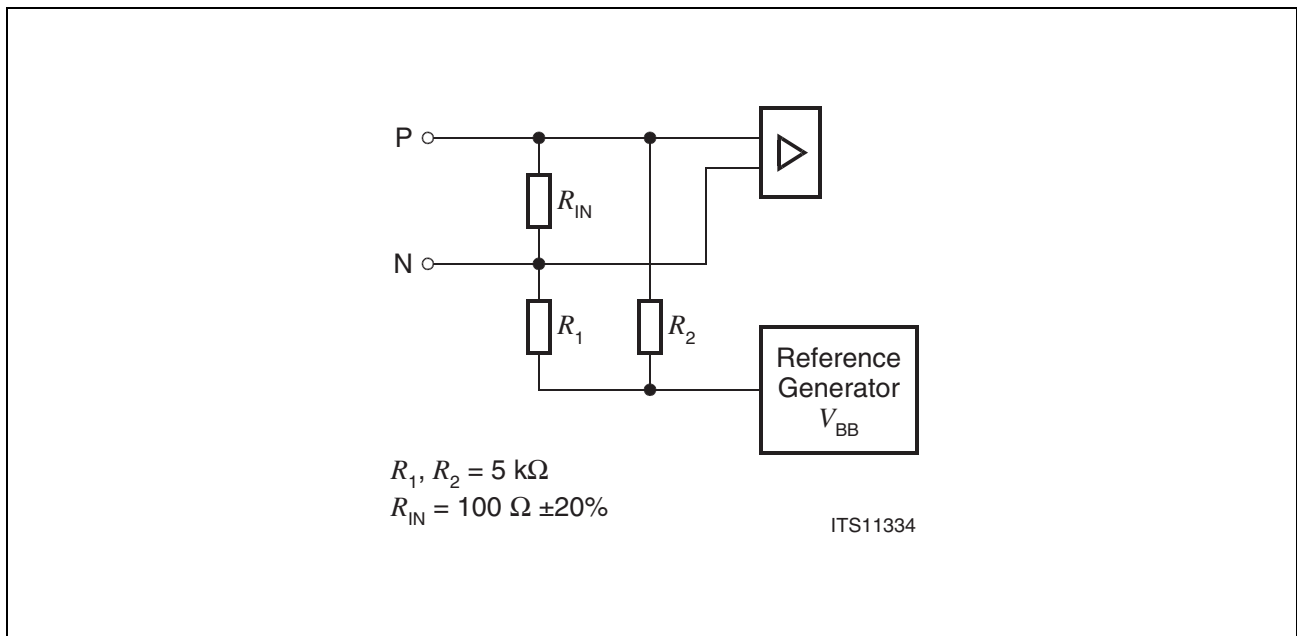

Figure 9 Data/Clock Input Stage
- 12) Data/clock inputs are internally connected to V_{BBD}/V_{BBC} by resistor R₁/R₂ with a differential termination by R_{IN}. See data input stage description (see **Figure 9**).